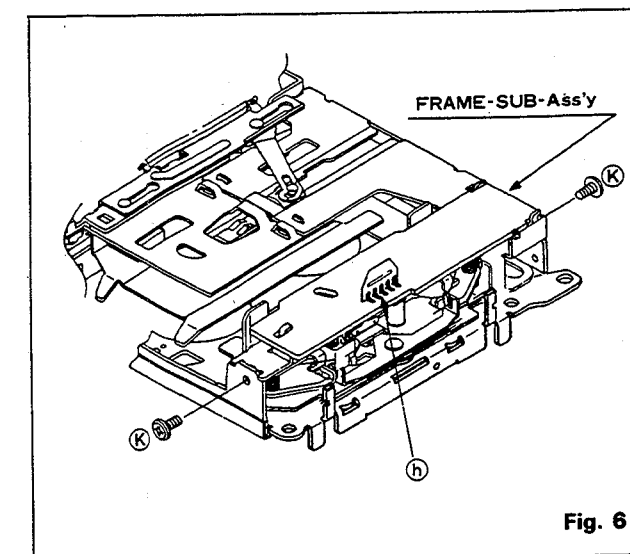

Fig. 6
- (1) Remove solder from 5 points at Section (h). (Refer to Fig. 6).
- (2) Loosen Screws (K) (2 pcs.) to remove the frame sub ass'y.